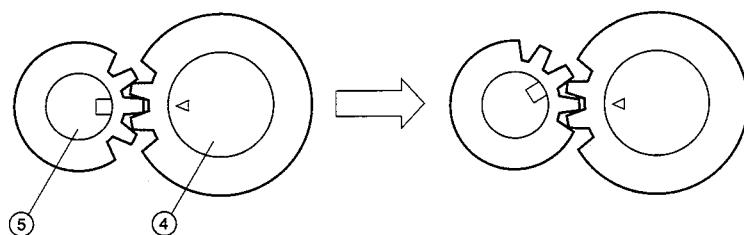

Figure 3-5 Column Displacement Adjustment B
1. Remove the stop ring ③, then remove the idler gear ④.
2. Turn the motor gear ⑤ one tooth, then install the idler gear ④ and the stop ring ③. This operation changes the relative positions of the idler gear ④ and the motor gear ⑤ (the relation between the Δ on the idler gear and the \square on the motor gear) as Figure 3-5 shows.